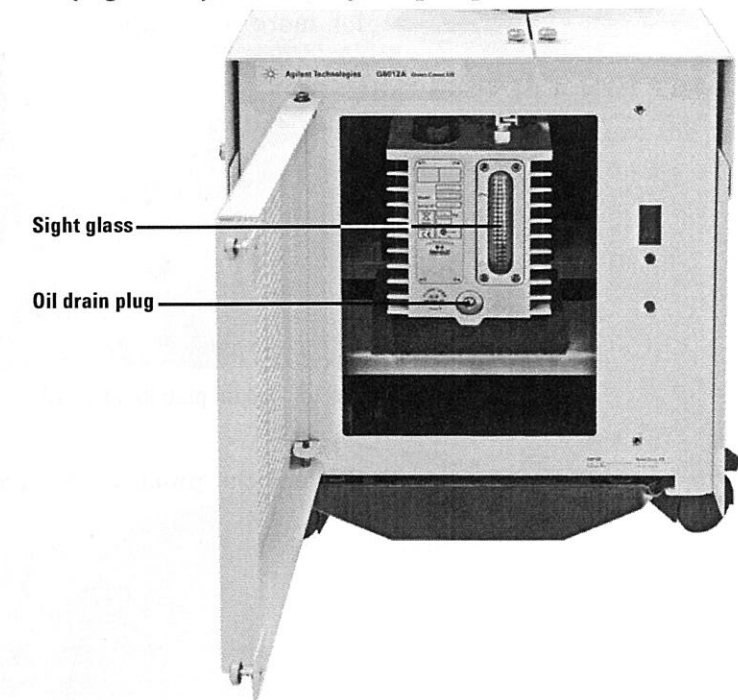

Figure 14 DS 302 pump through access door (other DS models are similar)
- 9 Remove the oil drain plug from your rough pump (Figure 14). Refer to your pump documentation.